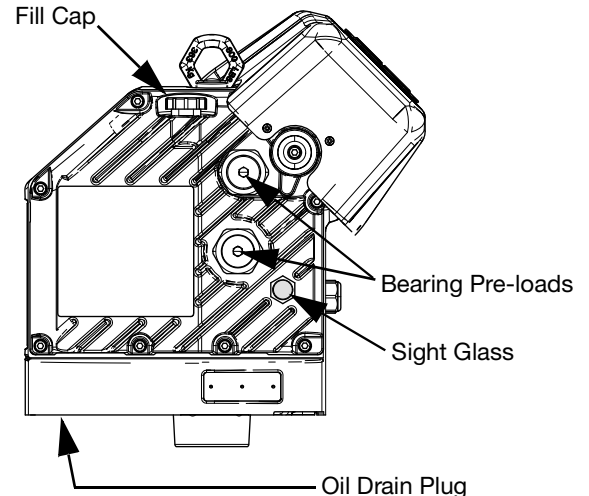

Fig. 13: Sight Glass and Oil Fill Cap
3. Remove the oil drain plug. See **Figure 13** for the location of the drain plug. Allow all oil to drain from the driver.
Refer to **FIG. 13** below. Check the oil level in the sight glass on a regular basis. The oil level should be near the halfway point of the sight glass when the driver is not running. If the oil is low, open the fill cap and add Graco Part No. 16W645 ISO 220 silicone-free synthetic EP gear oil.